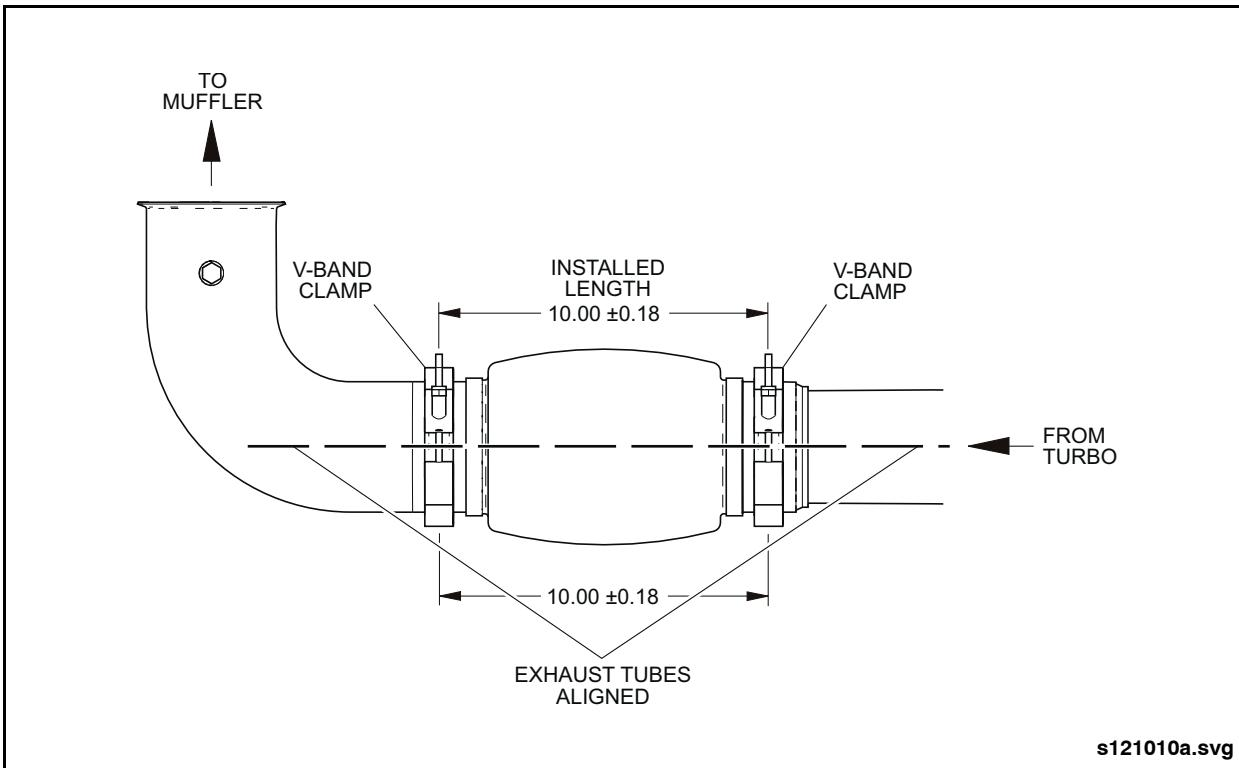

Fig. 4-27: Exhaust Flex Connector Installation
- d. The exhaust flex connector length shall be 10.00 ± 0.18 " when measured between the crimping rings on either end. Adjust muffler exhaust tube as required to achieve this dimension. See "Fig. 4-27: Exhaust Flex Connector Installation" on page 46.